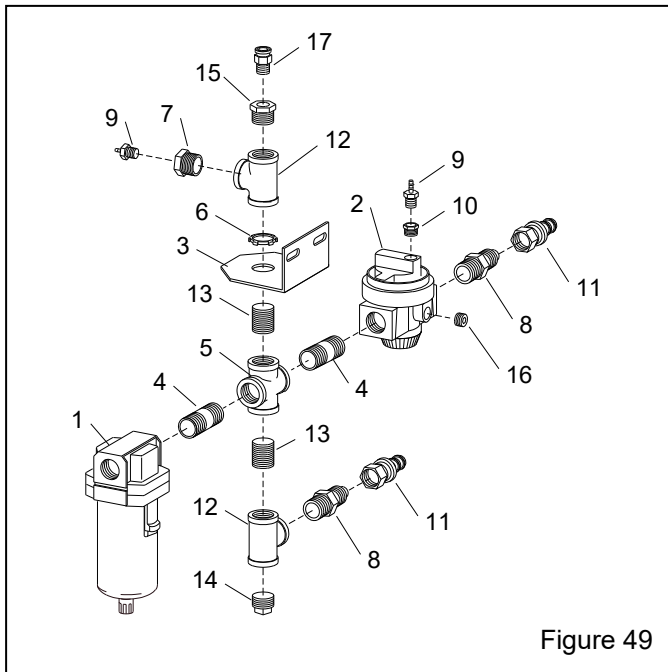

Figure 49
**9.9 Inlet-Air Regulator Assembly – Figure 49**